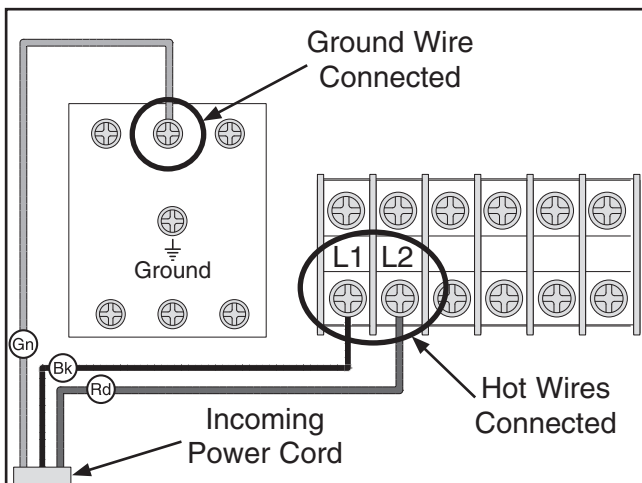

Figure 17. Incoming ground and hot wires connected.
3. Identify **L1** and **L2** terminals and grounding plate, shown in **Figure 17**, then connect incoming hot wires and ground wire to those terminals.